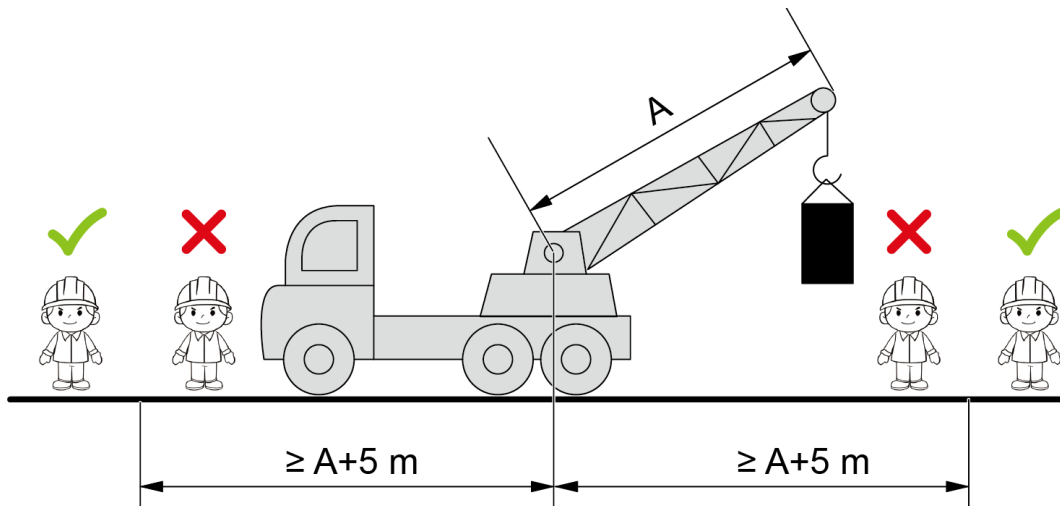

Fig. 3-1 Crane lifting
- Unauthorized personnel are strictly prohibited from entering the exclusion zone. As shown in Fig. 3-1, the radius must be  $R \geq A + 5$  m. Standing or walking under the crane boom or the suspended load is strictly forbidden.